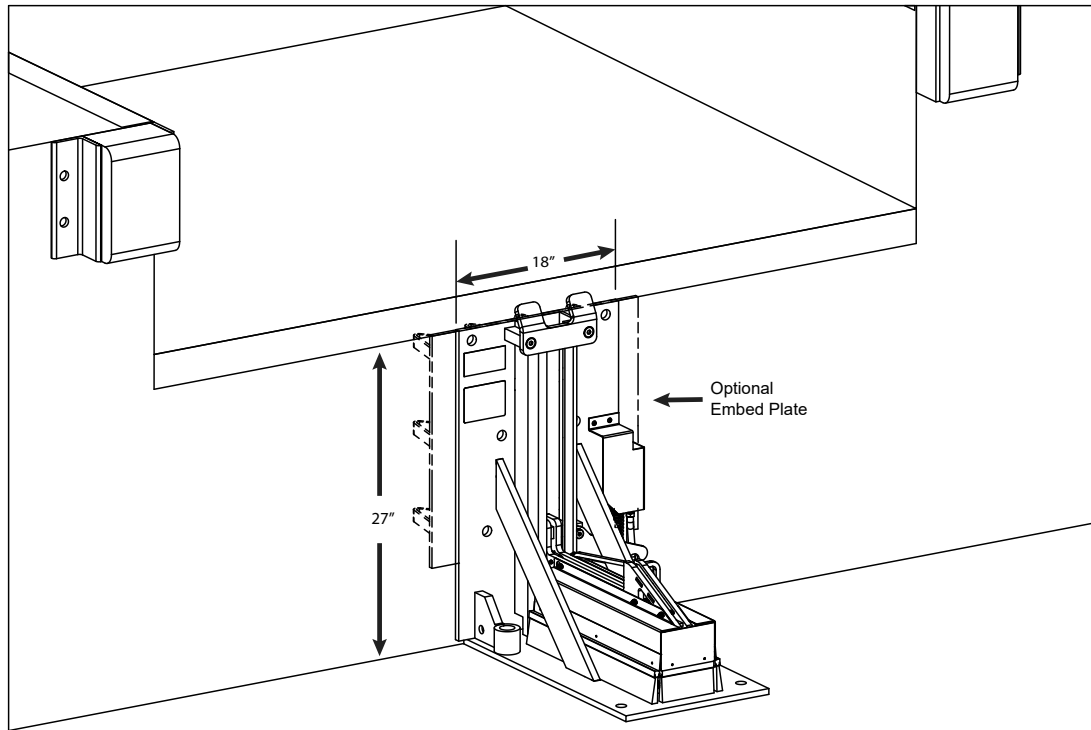

Figure 7
If optional embed plate is present, weld three sides of Stop-Tite back plate to the embed mounting plate with ten (10) 4" long, 1/4" fillet welds. See Figure 7.